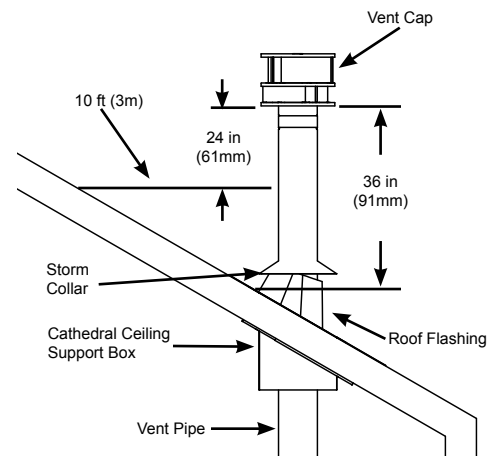

Figure 22
9. Connect the necessary amount of pipe sections to reach the Room Heater at a point where the Vent Cap will extend a minimum of 36 in (91 cm) above the roof. Also, the cap must be 24 in (61 cm) higher than the highest part of the roof or structure that is within 10 ft (3 m) of the chimney, measured horizontally. See Figure 22.
12. Slip the Flashing over the pipe section(s) protruding through the roof. Secure the base to the roof with roofing nails. Insure that the roofing material overlaps the top edge of the Flashing. See Figure 22.